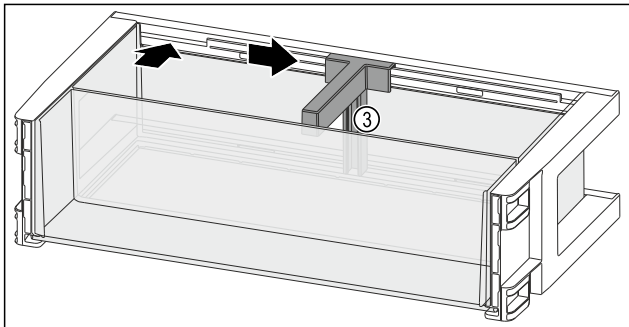

Fig. 98
- Insert the bottle holder Fig. 98 (3) in the recess.
- Push the bottle holder Fig. 98 (3) to the desired position to the side.